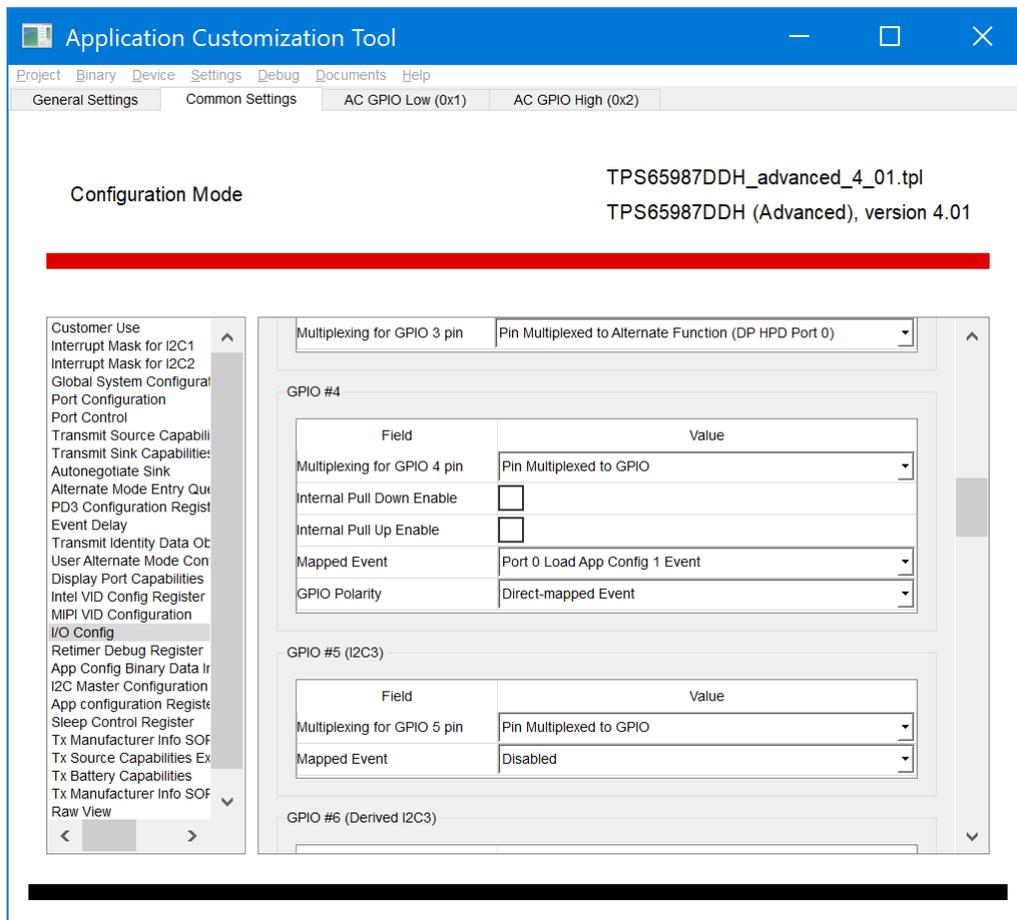

Figure 3-8. Map Load App Config Set 1 to GPIO 4
6. Map Load App Config Set 1 to GPIO4 as shown in Figure 3-8.